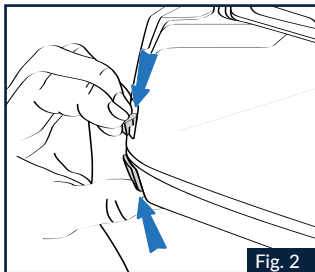

Fig. 2
1.2 Place your forefinger on top of the opening lever and push it downwards to unlock the chin guard (Fig.2).